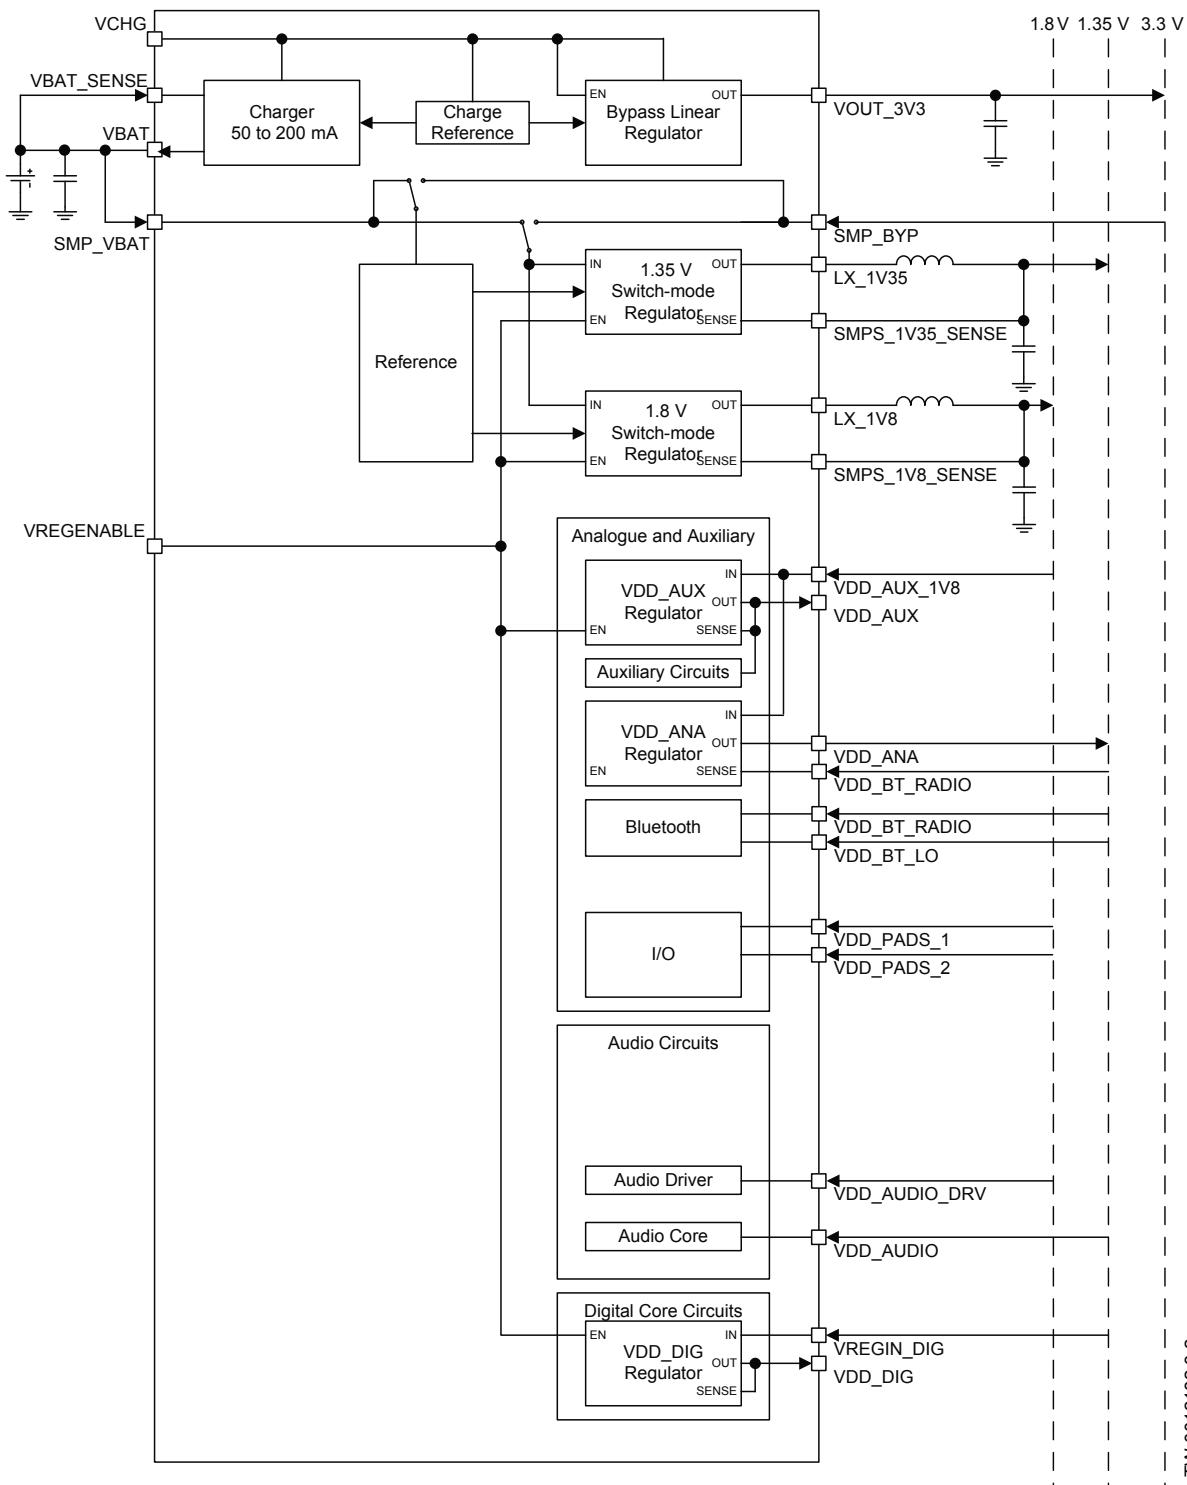

Figure 9.1: 1.80 V and 1.35 V Dual-supply Switch-mode System Configuration
- A 1.80 V and 1.35 V dual-supply rail system using the 1.80 V and 1.35 V switch-mode regulators, see Figure 9.1. This is the default power control and regulation configuration for the CSRA64210 QFN.